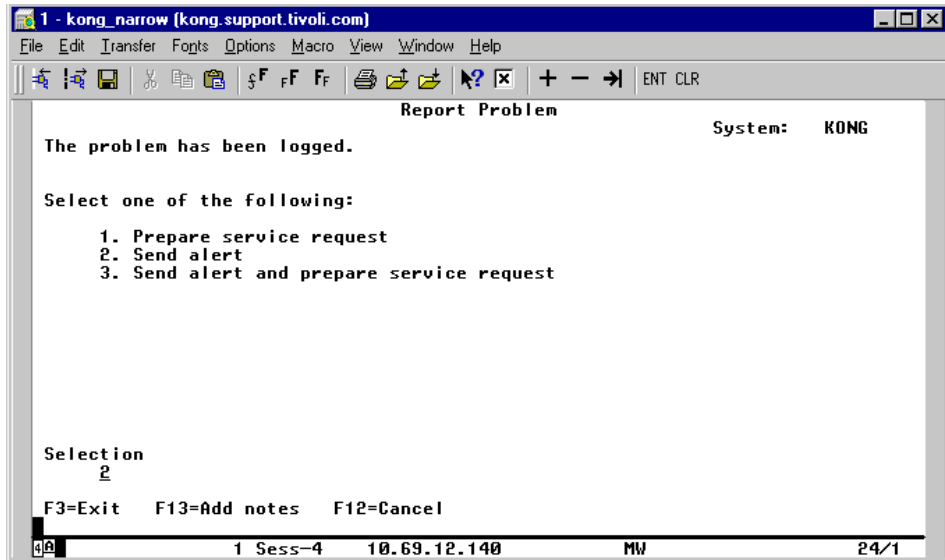

Figure 186. ANZPRB: Report Problem
- g. Since we are not reporting an actual problem, specify *N* at the Save APAR data parameter, and press **Enter**. The Report Problem panel shown in Figure 186 will appear.